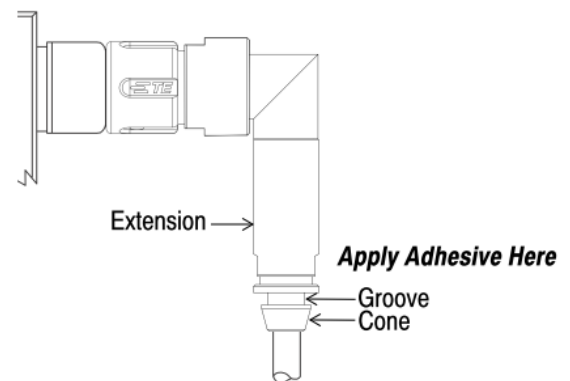

Figure 16
29. Apply the o-ring grease to the front, back, and outside diameter of the cable seal, and also to the cable jacket between the seal and the washer. See Figure 16, Detail A.
30. Apply several drops of the threadlocker to the threads of the adapter. See Figure 16, Detail A.
31. Apply a thin film of o-ring grease to the inside edge of the extension (this is necessary to prevent damage to the O-ring of the adapter). See Figure 16, Detail B.
32. Slide the extension over the collet nut and onto the adapter. Thread, then hand-tighten the extension. Using the 14-mm open-end wrench, tighten the extension to a torque between 4 and 6 N·m. See Figure 16, Detail C.
33. Apply the instant adhesive completely around the groove and around the cone of the extension. See Figure 16, Detail C.